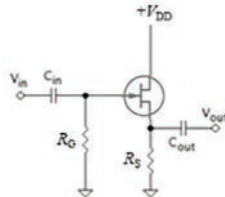

Figure 8.17 Ch 8: No. 8, self-test
8. For the JFET CD amplifier of Figure 8.17, determine the input and output resistance R_{in} , R_{out} , and voltage gain A_V , if R_G is 9 M Ω , R_S is 6 k Ω , R_L is 14 M Ω , V_{DD} is 15 V, and g_m is 3 ms.